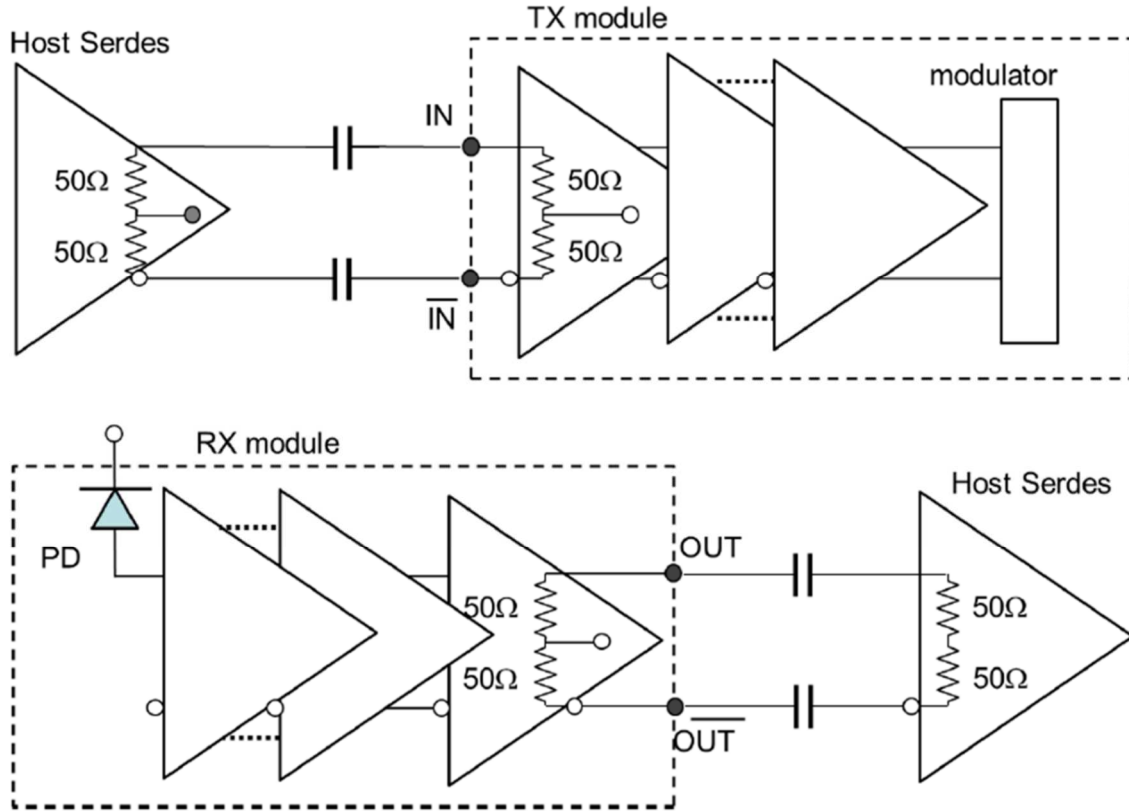

Figure 3. Interface block diagram between Host SerDes and Optical I/O core TX/RX.
Figure 3 shows the interface between an ASIC/SerDes and the optical I/O core TX (EO) and RX (OE); only one channel is shown. DC blocking capacitors may be required in series for both TX and RX. Differential impedances are nominally 100-ohm. Unused input / output pins should be terminated by 100-ohm differential loads.